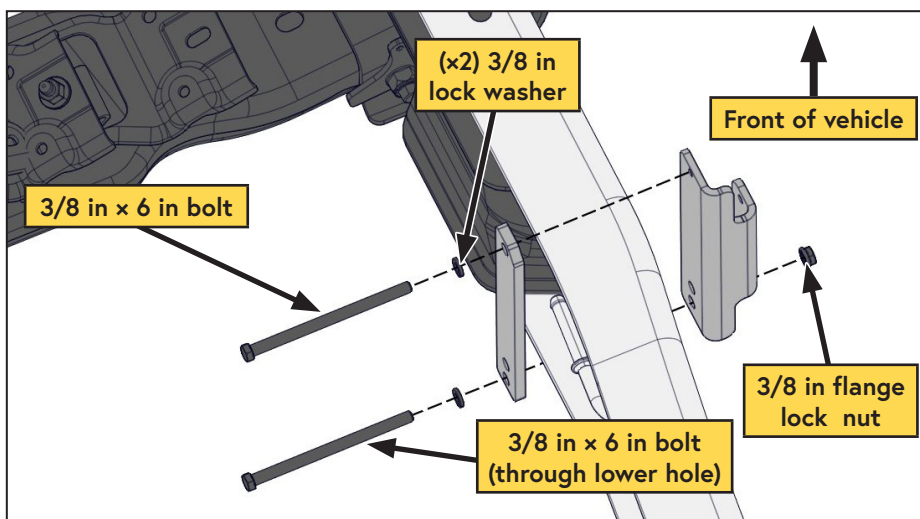

Figure 47 — Installing the AOST
- Using the (x2) 3/8 in x 6 in bolts, install the rear tank mount and backing strap where the frame begins to narrow, behind the transmission cross member. Leave the bolts finger tight to allow for minor adjustments (Figure 47).